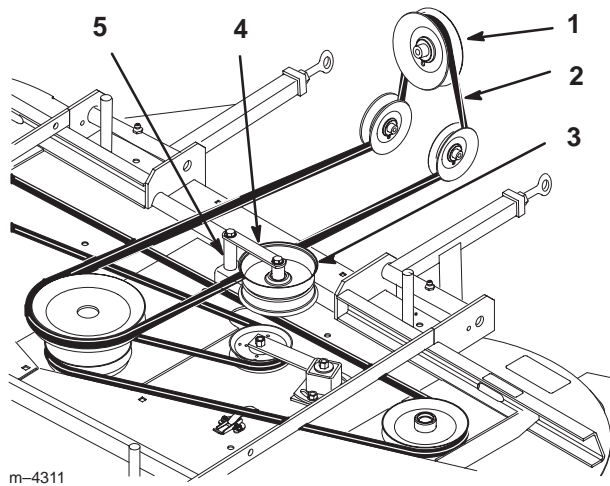

Figure 62
3. Remove the PTO drive belt from the clutch, around the rear idler pulleys, and off of the mower top center pulley (Fig. 62).
4. Remove the bolt, nut, washer, and spacer from the idler pulley bracket assembly. Remove the belt from the bracket assembly (Fig. 62).
6. Install the belt into the idler pulley bracket assembly. Install the bolt, nut, washer, and spacer into the assembly (Fig. 62).